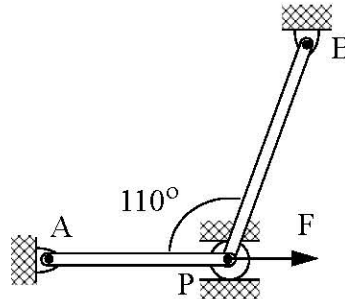

Fig. P7.7
7.7 The roller at P shown in Fig. P7.7 slides in the slot due to the force $F = 20\text{kN}$. Both bars have a cross-sectional area of $A = 100\text{ mm}^2$ and a modulus of elasticity $E = 200\text{ GPa}$. Bar AP and BP have lengths of $L_{AP} = 200\text{ mm}$ and $L_{BP} = 250\text{ mm}$ respectively. Determine the axial stress in the member AP by virtual displacement method.